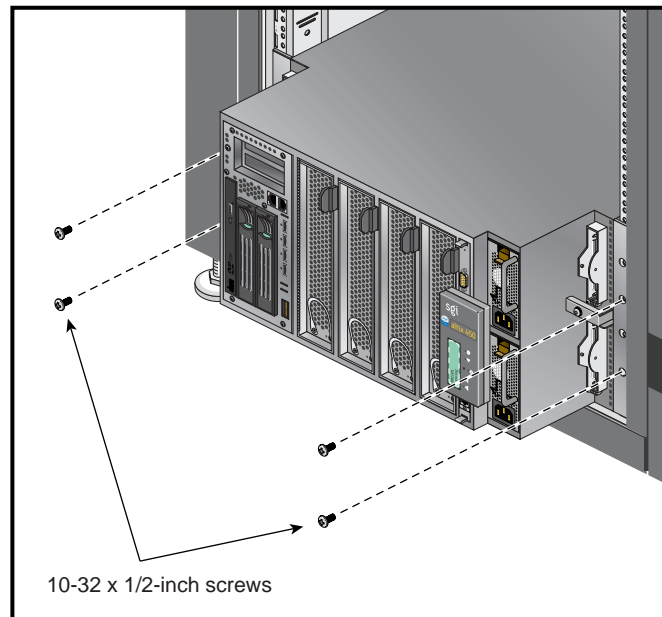

Figure 1-13 Securing the Module to the Front of the Rack
7. Working from the front of the rack, set the rear edge of the IRU module on the shelf rails. Then slide the module into the rack until the module ears are snug against the front rack rails. See Figure 1-13.
8. Fasten the module to the front rails of the rack with the screws provided. See Figure 1-13.